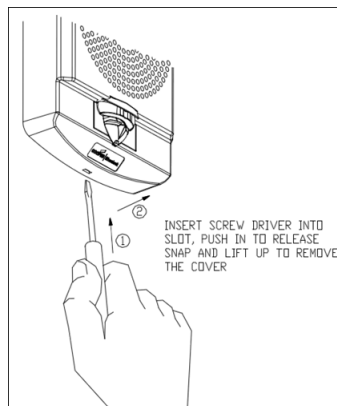

Figure 5: Cover Removal (See step 5)
5. To remove the appliance, insert a small flat-bladed screwdriver into the bottom opening 1/2" as shown in Figure 5. Then pry off beauty cover with the screw driver and then unscrew device.